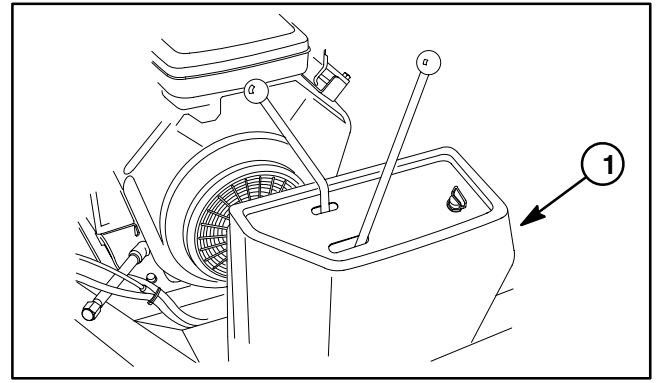

Figure 14
3. Remove control cover from machine (Fig. 14).
4. Loosen two (2) self-tapping screws (item 16) that secure pump support bracket to frame. Loosen jam nut (item 17) and then loosen square head screw (item 18) to relax pump drive belt.
3. Install control cover to machine (Fig. 14).